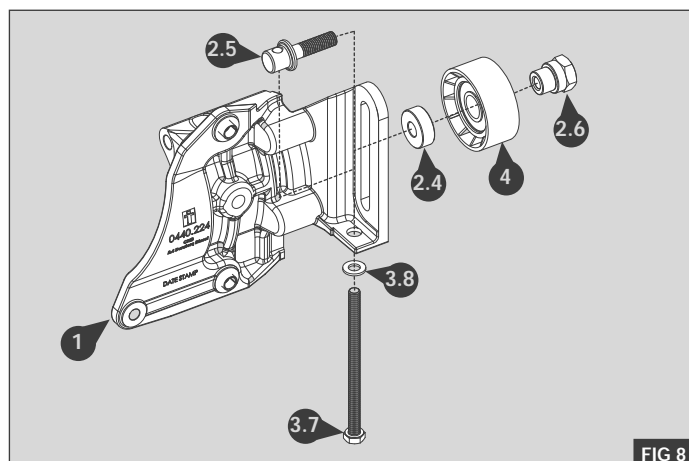

FIG 8
1. Assemble the idle pulley assembly as detailed, do not fully tighten the nut (2.6) or M8 x 120 bolt (3.7) - Fig 8